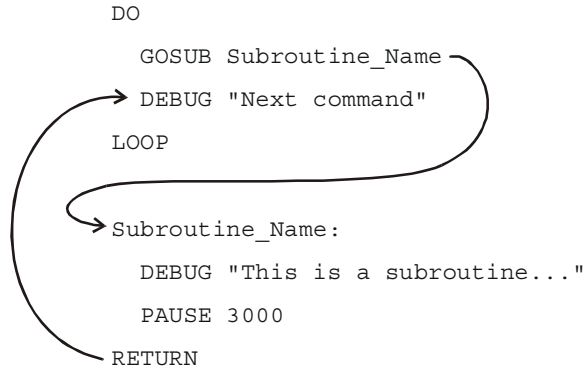

Figure 7-11
Figure 7-11 shows an example of a subroutine and how it's used. The command `GOSUB Subroutine_Name` causes the program to jump to the `Subroutine_Name:` label. When the program gets to that label, it keeps running and executing commands until it gets to a `RETURN` statement. Then, the program goes back to command that comes after the `GOSUB` command. In the case of the example in Figure 7-11, the next command is: `DEBUG "Next command"`.
- ✓ Add the subroutine example in the Figure 7-11 on page 207 to SimpleSubroutines.bs2.